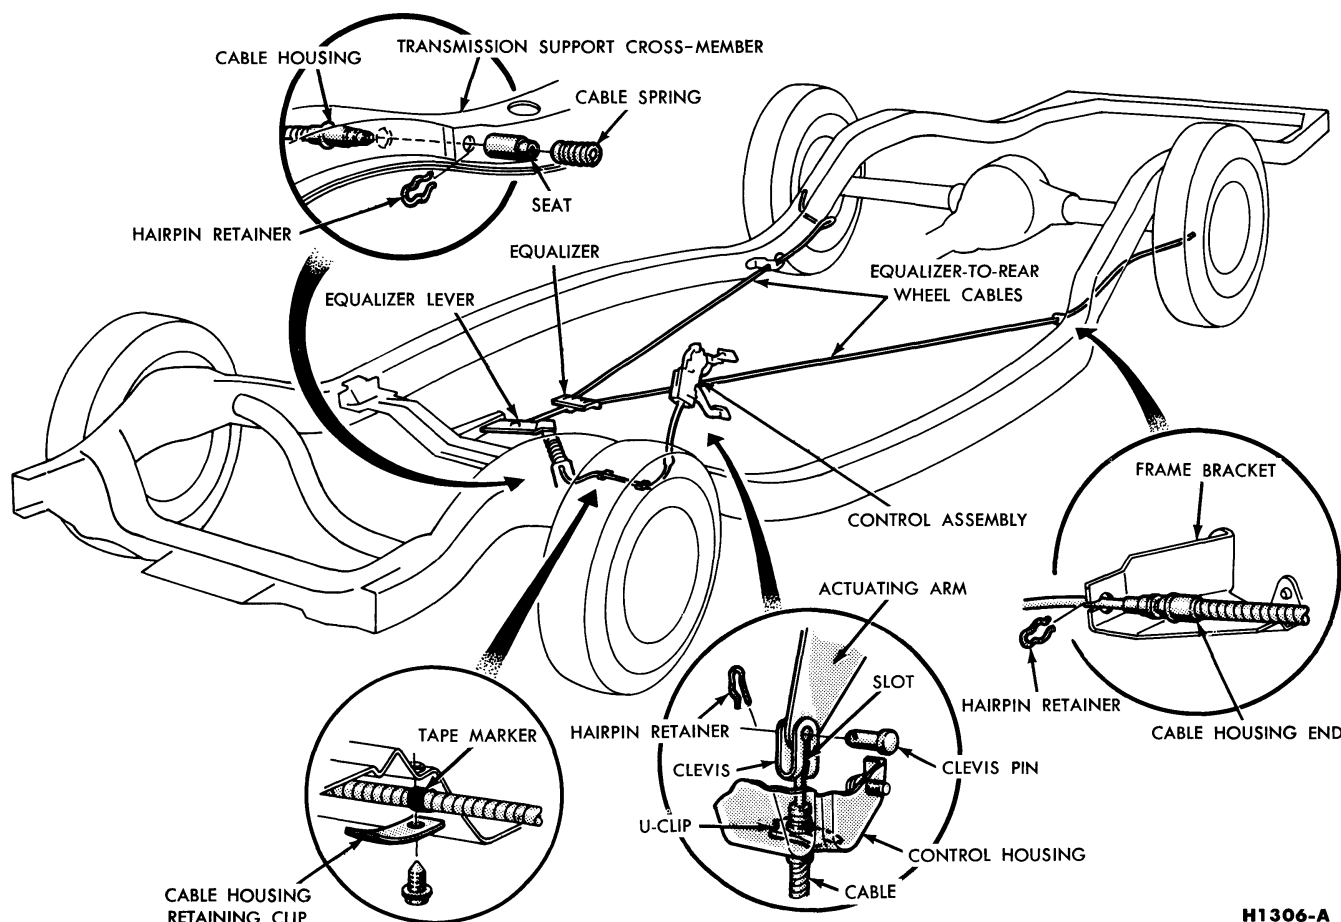

FIG. 17—Parking Brake System
2. Remove the U-clip that retains the cable housing to the parking brake control housing (Fig. 17).
1. Insert the parking brake cable and housing through the hole in the control housing and install the U-clip (Fig. 17).
2. Install the clevis over the ball on the end of the cable, and attach the clevis to the actuating arm by inserting the clevis pin. The head of the clevis pin must be assembled on the slotted side of the clevis as shown in Fig. 17. Secure the clevis by installing the hairpin retainer.
2. Remove the hairpin retainer from the cable housing at the transmission rear support crossmember. Remove the cable spring and seat (Fig. 17).
6. Remove the U-clip that retains the cable housing to the parking brake control housing (Fig. 17).
2. Position the upper end of the cable into the control housing assembly, and secure the cable housing with the U-clip (Fig. 17).
7. Secure the cable housing to the rear side of the transmission rear support cross member by installing the hairpin retainer (Fig. 17). Install the spring seat and cable spring on the cable.
4. Remove the hair pin retainer that holds the cable housing to the frame bracket and pull the cable and housing out of the bracket (Fig. 17).
3. Thread the front end of the cable housing through the frame bracket and install the hair pin retainer (Fig. 17).